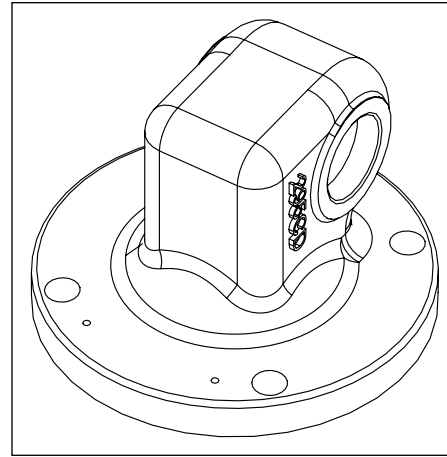

Fig. 11-4
- Bonnet See Fig. 11-4
Flip Bonnet over and verify that communication hole is clear and free of debris. See Fig. 11-4